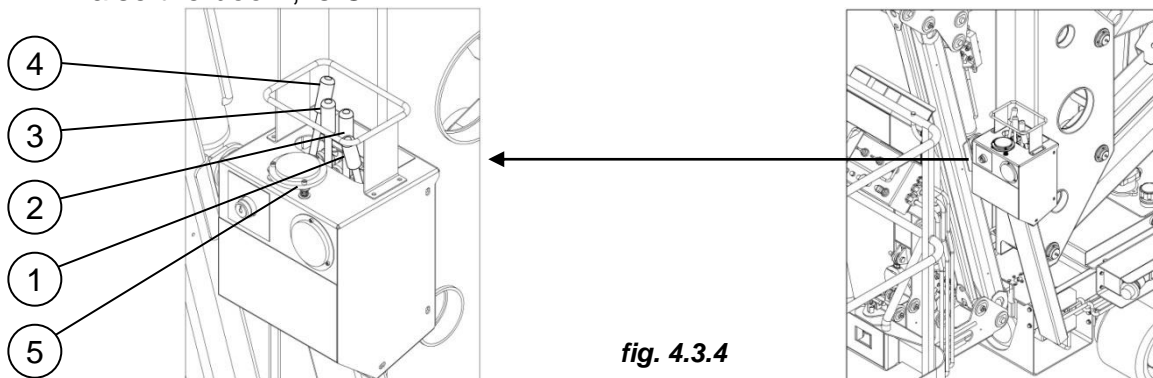

fig. 4.3.4
1. lower the stabilisers by operating the levers in turn (*pos. 1-2-3-4 fig 4.3.4*)
4. check the spirit level (*pos. 5 fig. 4.3.4*) found on the stabiliser control panel and level the platform correctly, using the stabiliser levers as necessary: the machine is perfectly level when the air bubble in the spirit level is at the centre (0°)
4. Close the stabilisers using the levers (*pos. 1-2-3-4 fig. 4.3.4*).